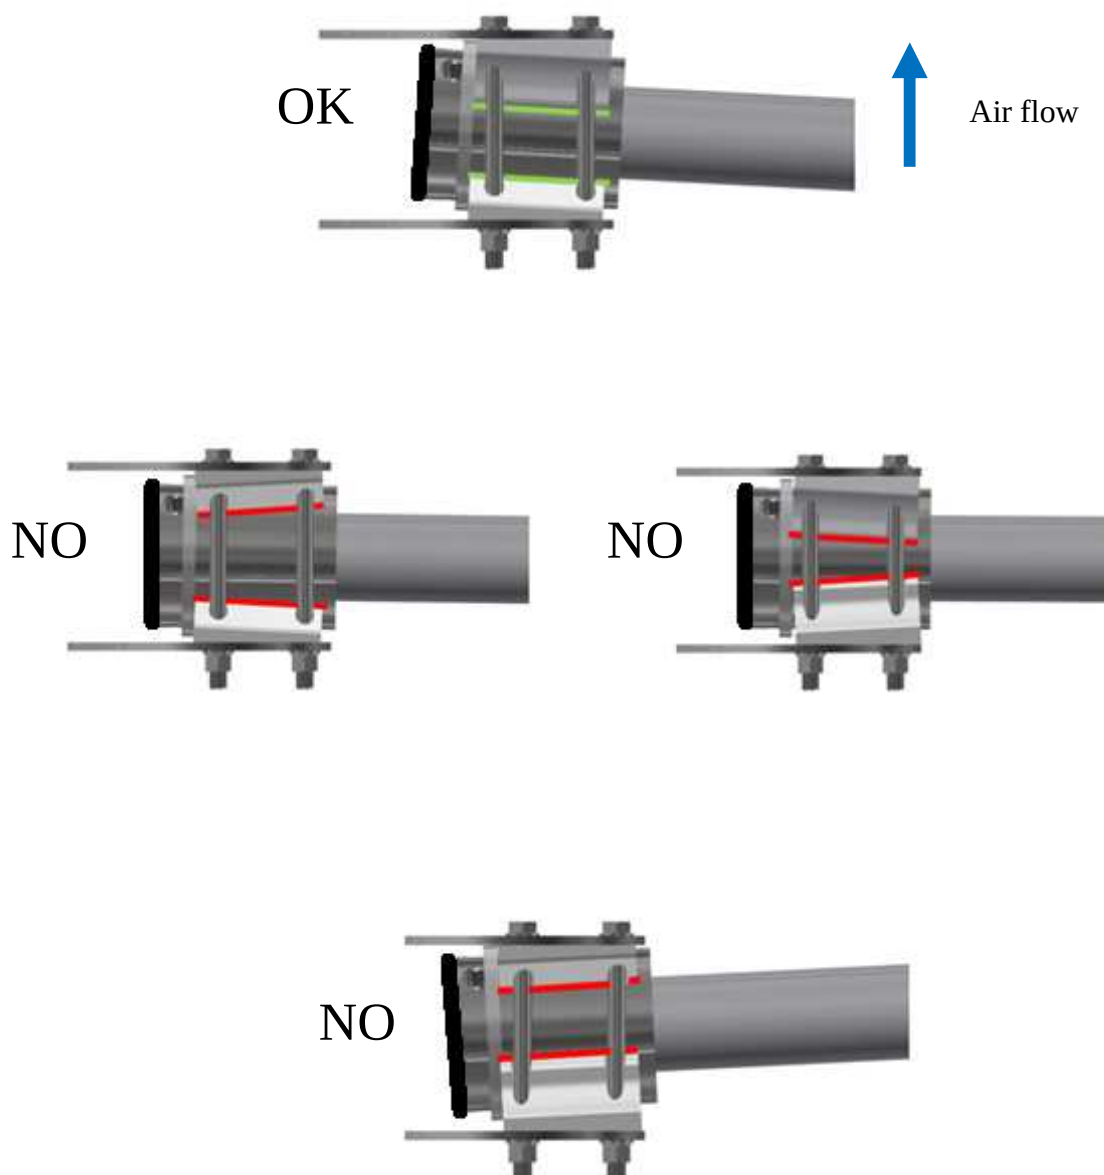

Figure 2.18c: correct position of the blocks
**WARNING:** in case the block [4] is equipped with a precone, make sure that both parts are correctly positioned: the two parts need to have the same inclination (figure 2.18c).